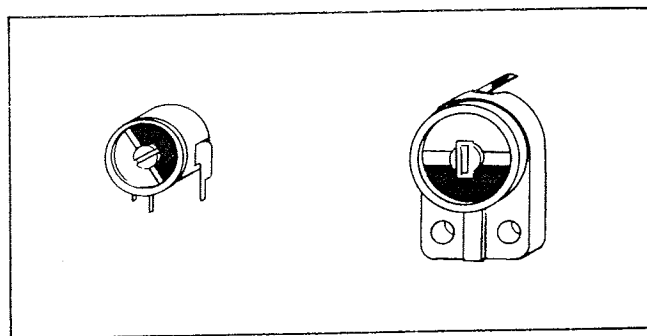

Figure 6.6 - Variable Capacitors Shown at Maximum Capacitance Settings
- Preset all RF Amplifier variable tuning capacitors to their mid-range settings according to the diagram in figure 6.6.
j. Key transceiver, tune PA TUNE control for maximum output, and adjust L1 through L4 for maximum output. The positions of the slugs should be fairly even from coil to coil. Make sure tuning capacitors are all at half capacitance. Refer to figure 6.6.